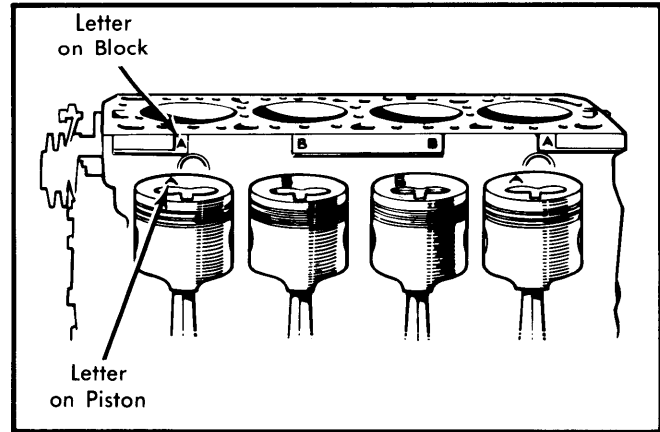

Fig. 11 Matching Pistons to Cylinder Bores
**NOTE** — Standard-size pistons have an "A" or "B" stamped on top surface. Match pistons to cylinder bores, which have an "A" or "B" stamped on side of cylinder block adjacent to each bore. See Fig. 11. Oversize pistons are stamped with either a "C" or "D", depending upon size class.